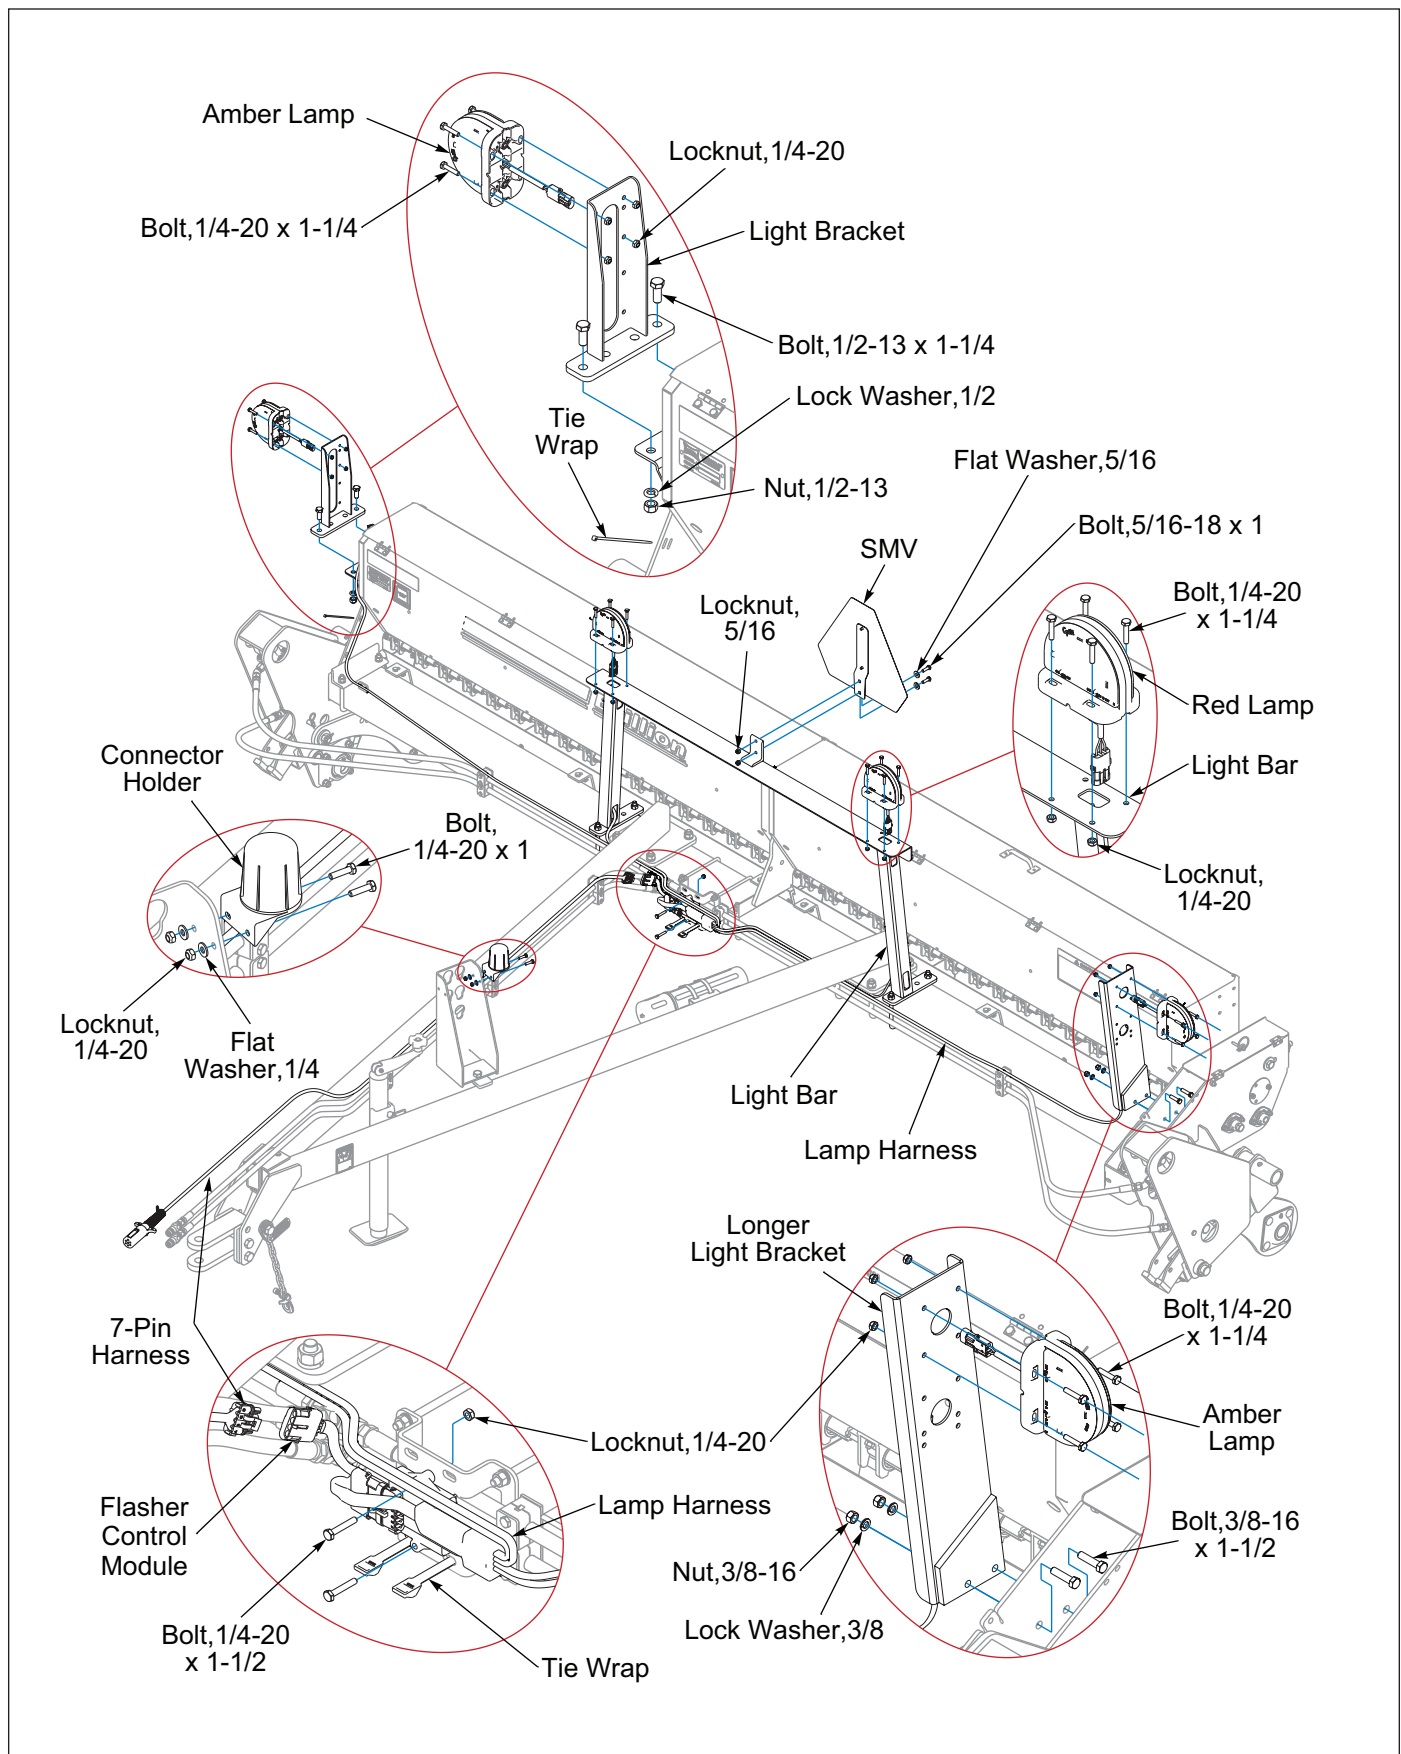

Figure 2-26: Warning Lamp Installation, 12FT (Before 08/2025)
1. Place a Red Lamp at each end of the Light Bar and insert the Red Lamp Cord into the Light Bar cutout. Secure Red Lamp to Light Bar with 1/4-20 x 1-1/4 Bolts and Locknuts. **See Figure 2-26.**